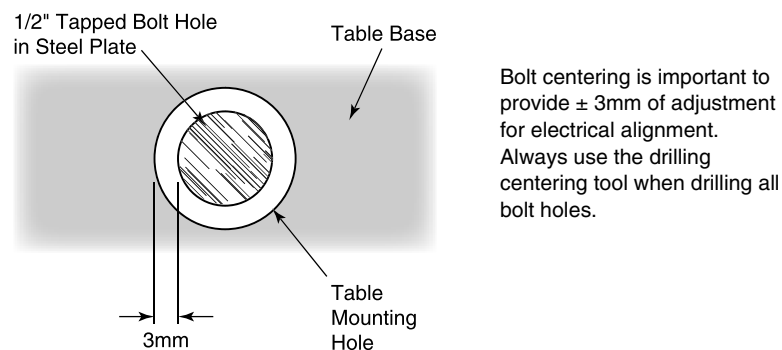

Figure 1-42 Center tapped holes under mounting holes in table base
- 3.) Fixed site Installations must be centered under mounting holes in table base, with 3mm of space visible surrounding the tapped bolt hole. Figure 1-42.